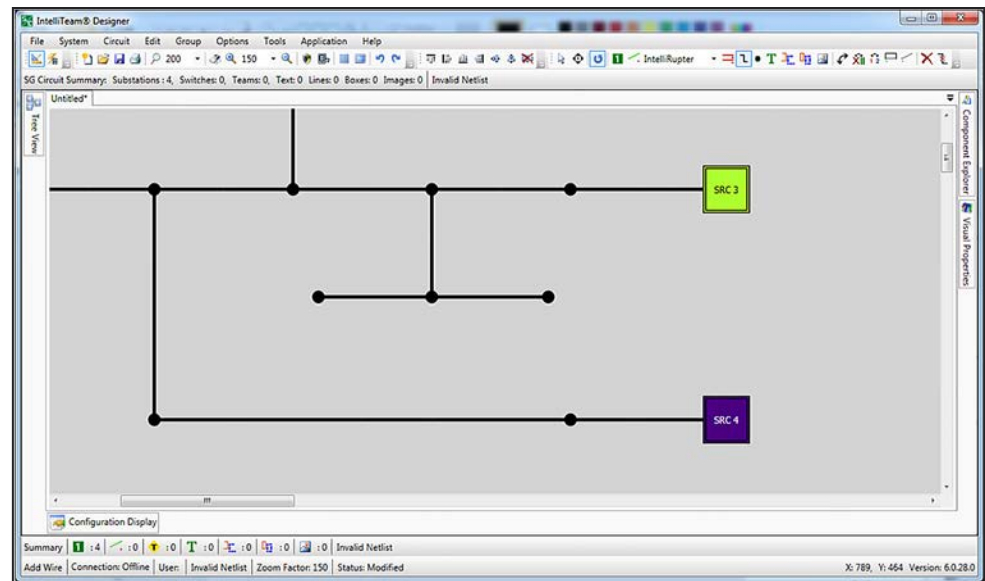

Figure 51. Connect the new wire connection points.
STEP 9. Continue adding wires until the connections shown in Figure 51 are complete.